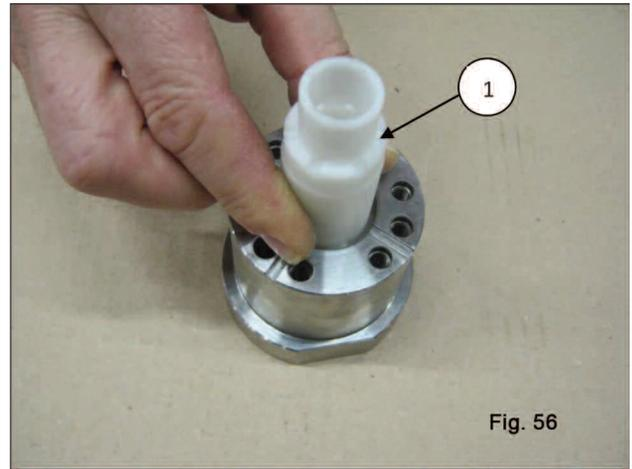
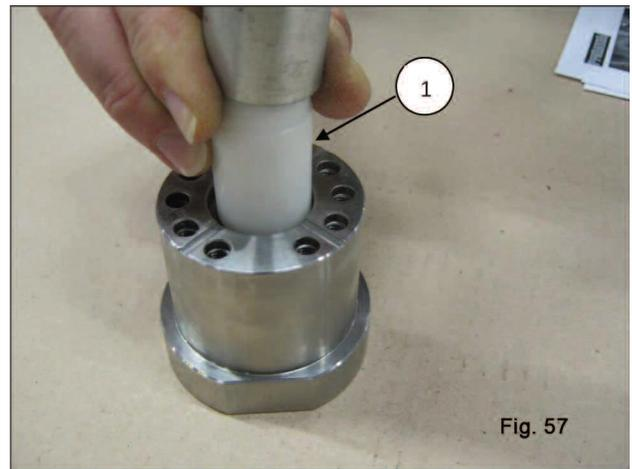
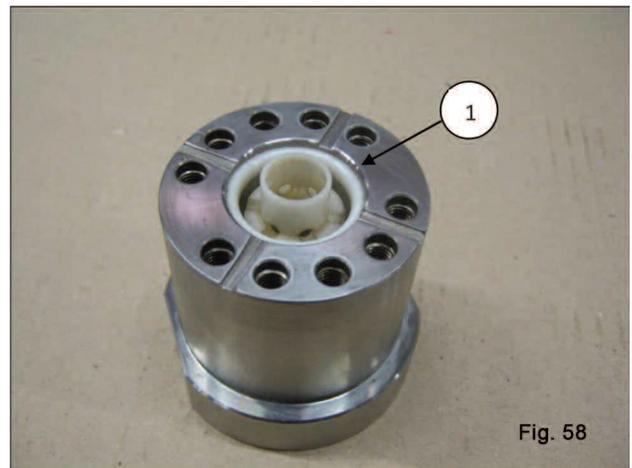

Fig. 56
Fig. 57
Fig. 58
- Insert the bushing for plunger and seal in the liner (1, fig. 56, fig. 57 and fig. 58).